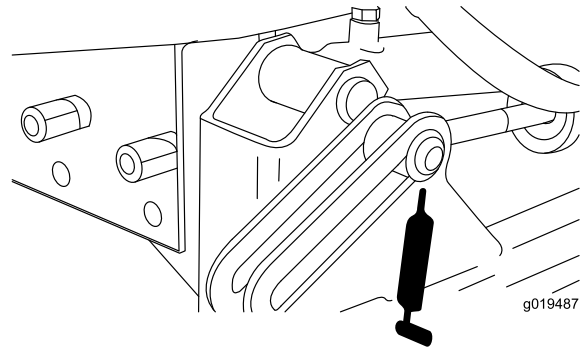
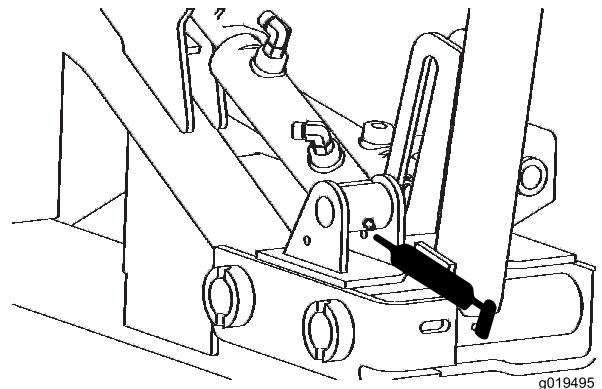

Figure 43
Figure 44
- Front lift cylinders (3) (Figure 43 and Figure 44).